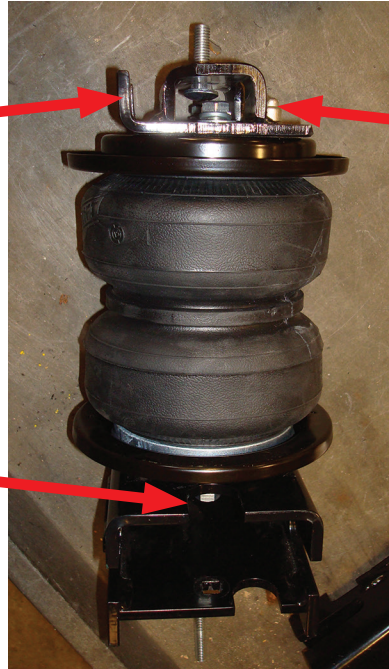

fig. 14
- When setting the lower bracket onto the air spring assemblies, you will be setting up both a left and a right hand assembly. Assemble the right hand (passenger) assembly as shown in figure 14. Assemble the left (driver) side air spring assembly by rotating the air spring assembly 180°.